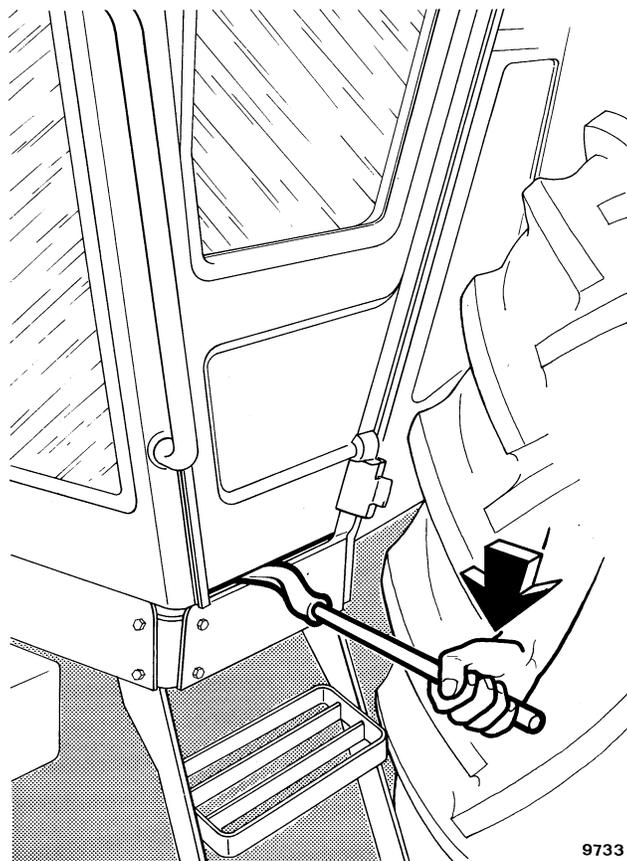

Fig. 7 - Door hinge adjustment
- Position the door making sure that the gap between door and cab is the same all round. NOTE: To facilitate this operation it is advisable to use a crowbar (Fig. 7) suitably covered with insulating tape so as not to nick the cab painted surface.